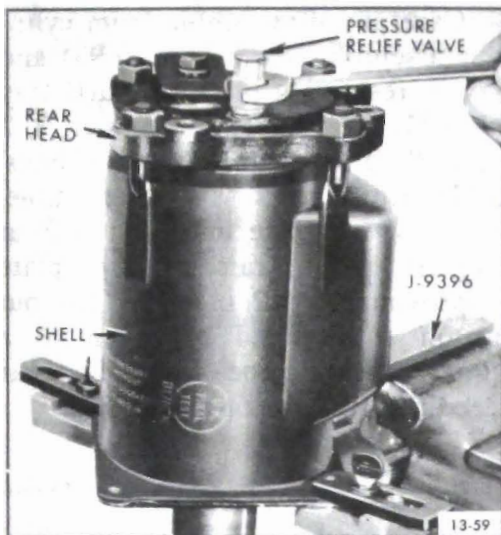

Figure 13-83 Compressor Installed in Holding Fixture
5. Reinstall compressor in holding fixture (J-9396) positioned as shown in Figure 13-83.